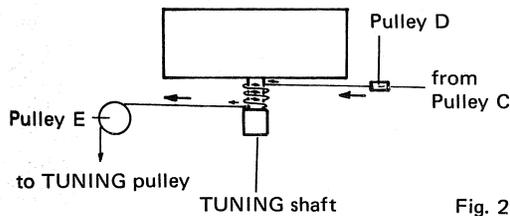

Fig. 2
2. Put the thread on pulley D, then wind it around the TUNING shaft three times, as shown in Fig. 2.